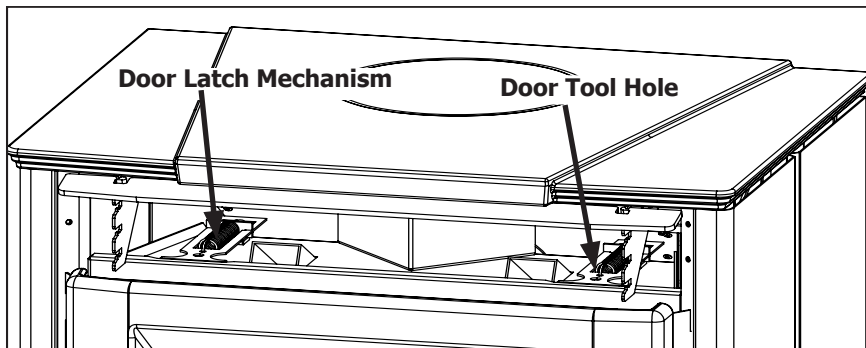
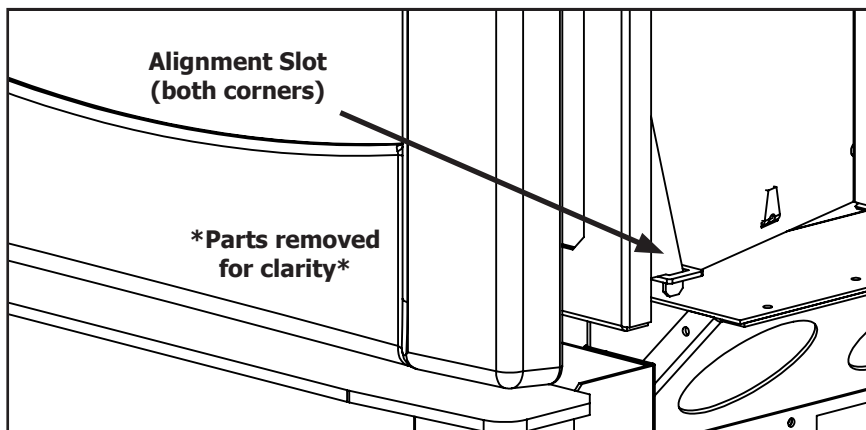

Figure 8. Top latches for glass door (louvers removed)
Figure 9. Bottom Alignment Slots for glass door.
In order to install the log set, and for regular cleaning, the glass door must be removed. The cast door must first be removed, as outlined in the section above, before accessing the door latches. There are two (2) door latch mechanisms on top the glass door as shown in Figure 8. Each latch has a hole at the front to use the door tool, supplied with the unit, to pull the mechanisms straight out and up. When the top latches are unhooked, lean the door forward and then lift it up out of the alignment slots at the bottom corners of the firebox, shown in Figure 9.